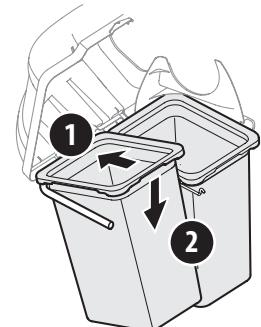

Figure 12
8. Install both bag assemblies onto the bag support brackets by inserting the front edge in first, as seen in (1) of Figure 12, and setting the back edge down until it fits into the assembly (2).